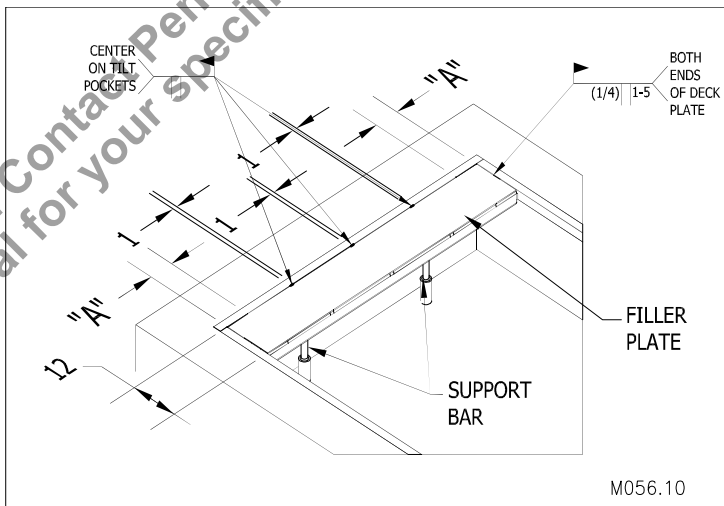

Figure 28: Installing the filler plate
11. Place the filler plate on top of the rectangular tubes as indicated in "Figure 28: Installing the filler plate" on page 26 making sure the filler plate sits flat and square to the rear and side curb angles.
12. Weld 1 inch butt weld at the mark off locations on the deck plate as indicated in "Figure 28: Installing the filler plate" on page 26.